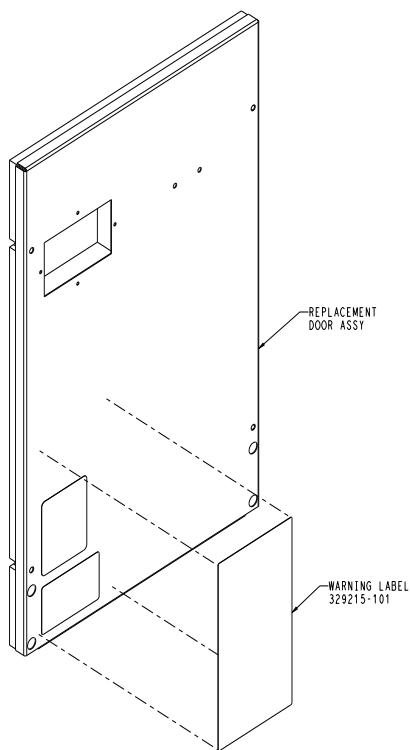

Fig. 1 – Replacement Door Assembly
This instructions covers the installation of the replacement upper door for Fan Coils and includes a replacement label for 50Hz export models. The door included in this kit can be used on 50Hz and 60Hz. The label in this kit is for 50Hz only. To convert to 50Hz, apply the label over the existing labels on the door in the location shown in Fig. 1.
4. Place new door in orientation as shown in Fig. 1 To identify the correct position for the new label.